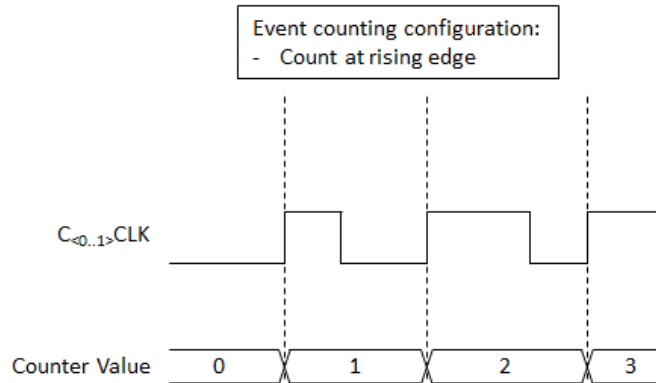

Figure 3.24 Event Counting
The USB-5801 provides 4 channels of digital output (DO) signal generation with 2,500 V_{DC} galvanic isolation. Figure 3.24 shows the functional block diagram of one digital output channel.